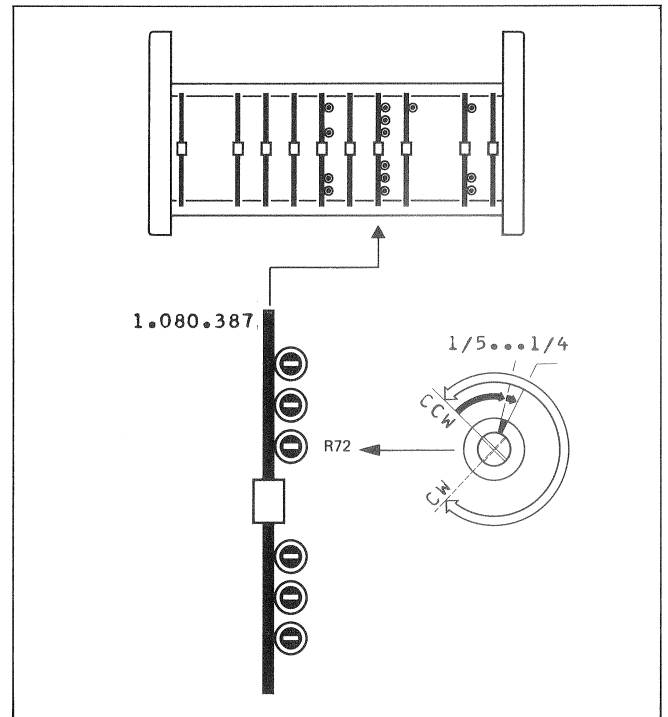

Fig. 4.8
- Open (turn clockwise) R72 (CUT) for EDIT REVERSE to $1/5 \dots \text{max. } 1/4$ of the setting range. -> Fig. 4.8